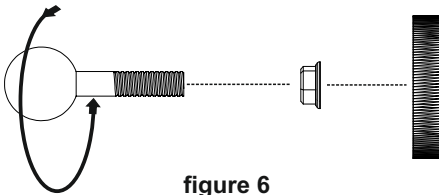

figure 6
Mount (4) & (5) as shown in figure 6. Screw the threaded ball (4) into the threaded insert on the rear of the loudspeaker (6) (loudspeaker not shown below). Tighten M8 nut (5) against the loudspeaker with a spanner. The assembly will now be as shown in figure 7.